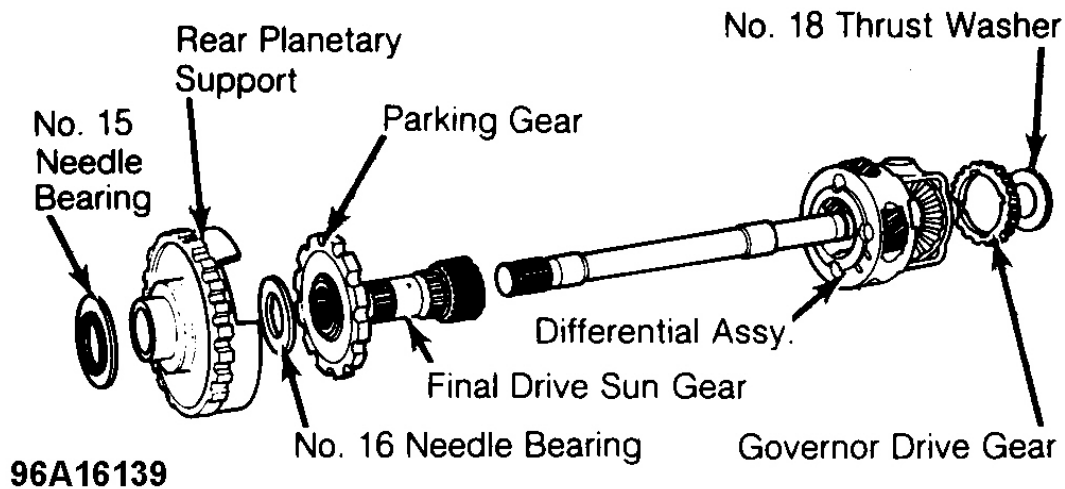

Fig. 32: Assembling Final Drive Components
5. Reassemble governor drive gear, differential assembly, final drive sun gear, parking gear, No. 16 needle bearing, rear planetary support, No. 15 needle bearing and No. 18 thrust washer. See **Fig. 32** .